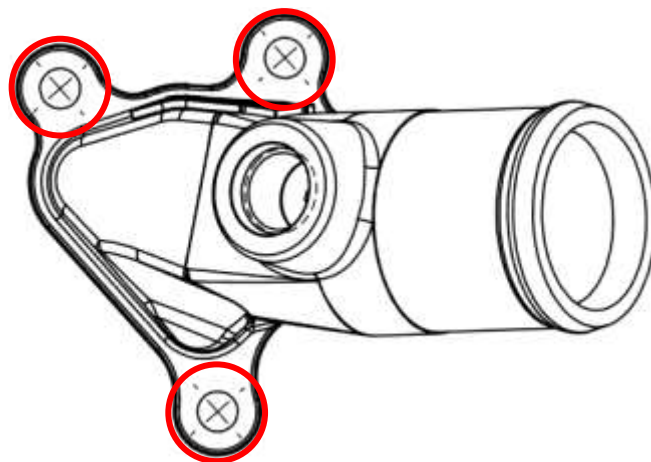

Figure 5
6. Once Coolant is Drained or Hoses are pinched, loosen the (2) two Hose Clamps and remove the Hoses from the OE Plastic Water Inlet. Collect any excess Coolant that will spill out.
7. Remove the (3) three bolts that secure the OE Plastic Water Inlet to the engine. There are (2) two bolts on top and (1) one bolt on the bottom. The bottom bolt can tough to reach. Retain this hardware. *Figure 5.*